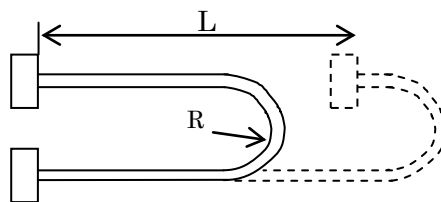

Fig J.4 (a) Cable durability test
- 1 Tighten the two places of the cable as shown in Fig.J.4(a) and make sure there is no movement between wire cores and between wire core and shield. Repeat the parallel movement of cable in the left/right direction.